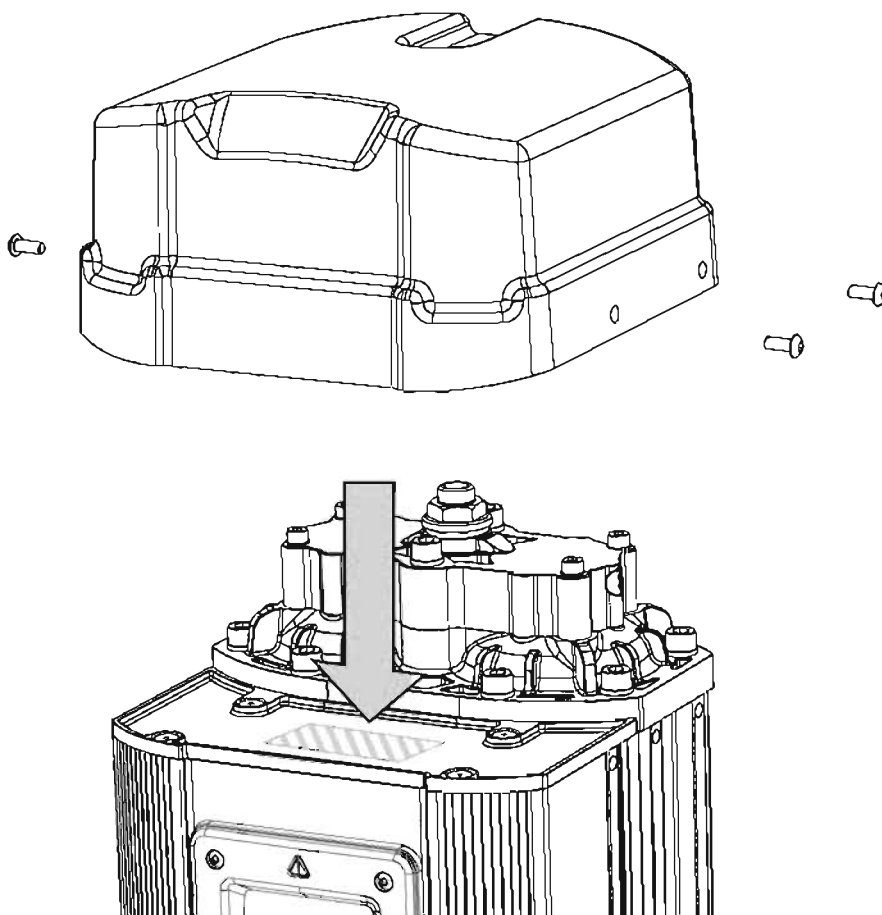

Figure 1.
2. Remove the 4x M5 to release the top cover. (See Figure 1)
3. Place a magnet on the marked area in Figures 1 & 2 (re-set area) for 8 - 10 seconds until the controller resets. (See Figure's 1 & 2 )